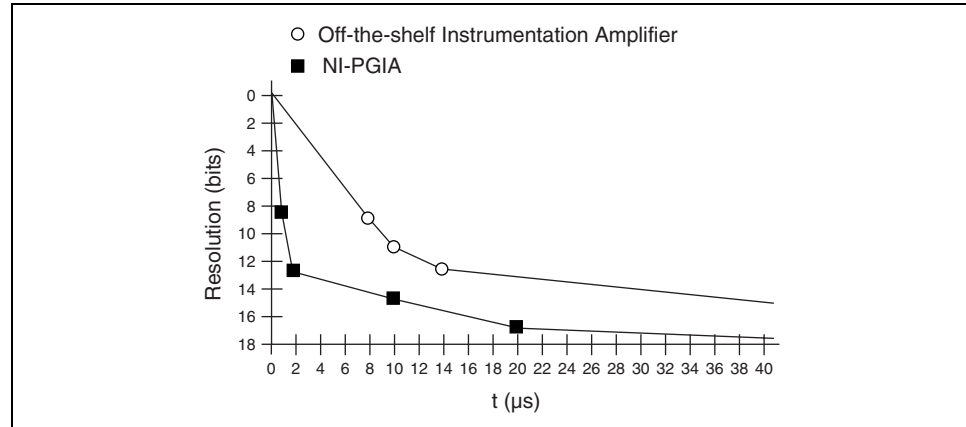

Figure A-11. Settling Time of NI-PGIA versus Off-the-Shelf Instrumentation Amplifier
- Obtain a board that has an instrumentation amplifier with superior settling time. Many National Instruments DAQ boards use a custom instrumentation amplifier, the NI-PGIA, that settles equally at all gains. Figure A-11 compares the settling time of the NI-PGIA with an off-the-shelf instrumentation amplifier.